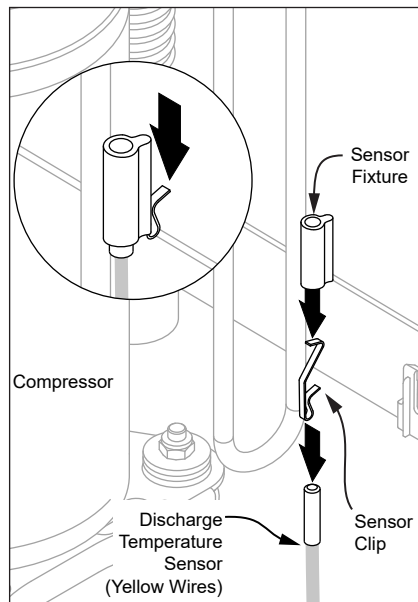

Figure 102 - Discharge Temperature Sensor (Located Right Side of Compressor)
- 13** Locate Discharge Temperature Sensor (yellow wires). Cut cable tie(s) securing foam insulation around sensor. Slide insulation up to reveal sensor. Pull downward on clip to remove sensor and clip from fixture (see Figure 102). **DO NOT** discard insulation.